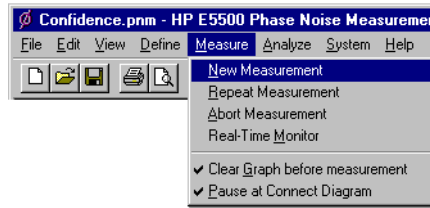

Figure 14-2 Selecting a New Measurement
- 1 From the **Measurement** menu, choose **New Measurement**. See Figure 14-2.